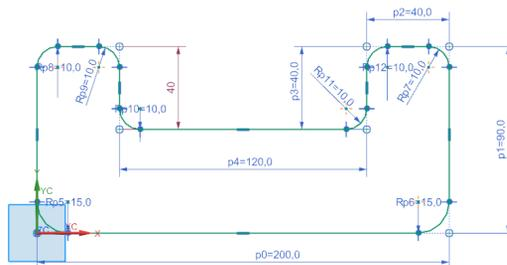

Figure 2-57 Sketch after creating fillets
7. Right-click and then choose the **OK** option from the shortcut menu to exit the **Fillet** tool. The fillets are created, refer to Figure 2-57.